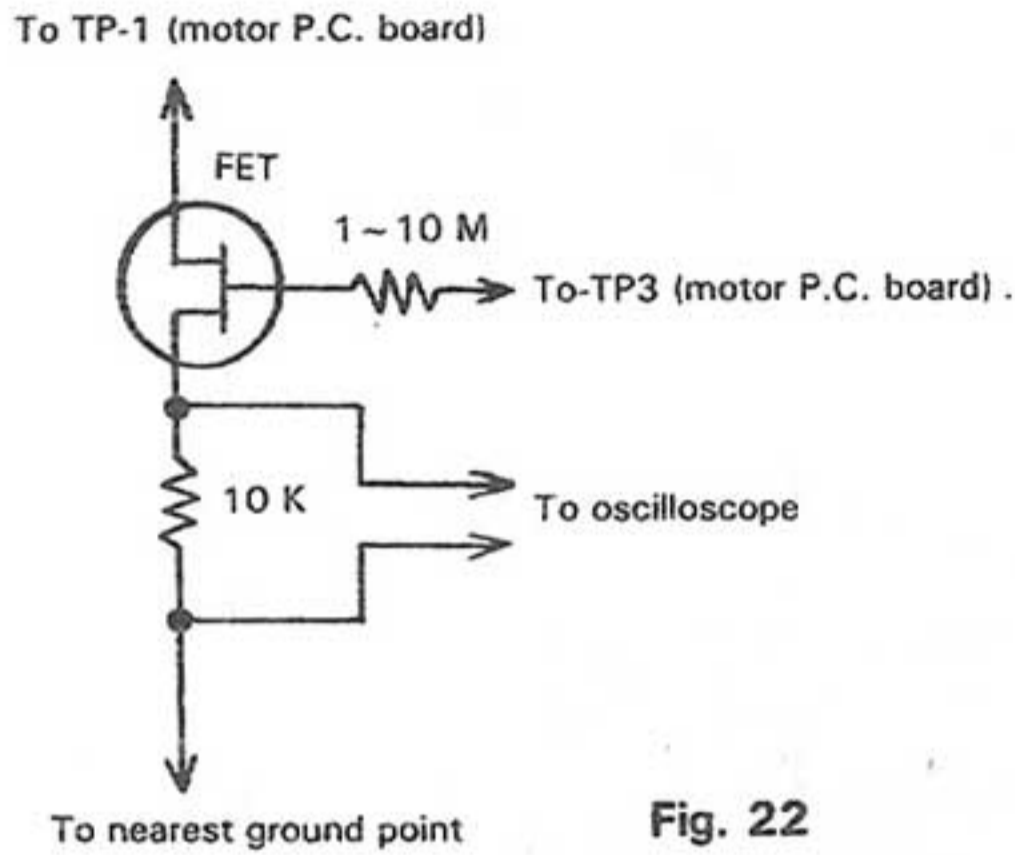

Fig. 22
1. Prepare an impedance conversion circuit as shown in Fig. 22.